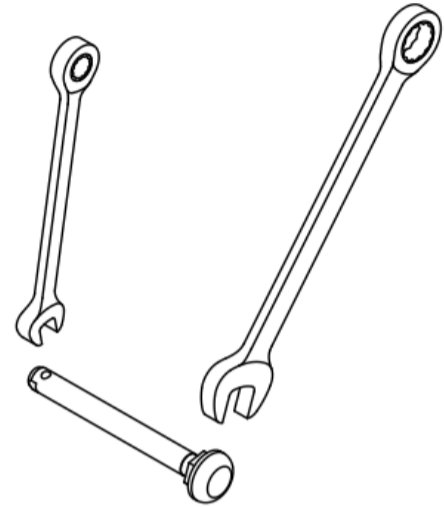

Figure 14.28: Quick release axle adjustment
1. Using a 7/16" open end wrench, securely hold the detent ball end of the axle. (See Figure 14.28)
1. Using a 7/16" open end wrench, securely hold the detent ball end of the axle. (See Figure 7.1 Figure 14.28)